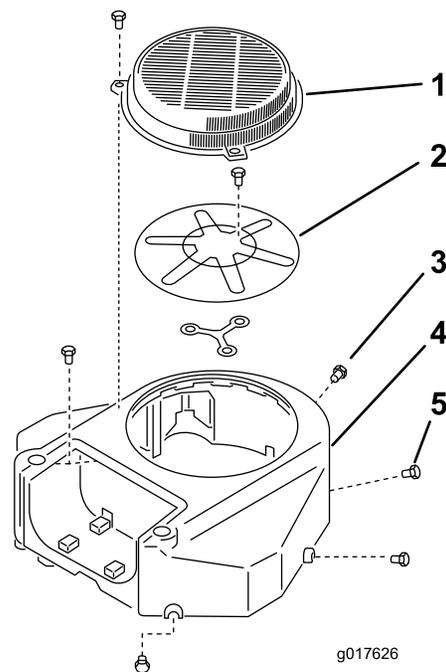

Figure 62
3. Remove the air intake screen and fan housing (Figure 62).
5. Install the air intake screen and fan housing (Figure 62).